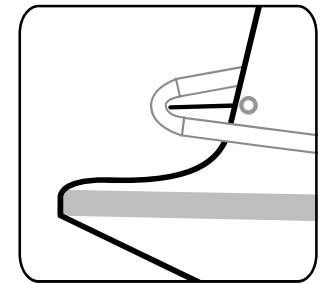

Fig. 4: Adjust the boom length to the outhaul cord.
c) Then, gently pull on the outhaul cord and set your boom to the end of the cord (fig. 4).